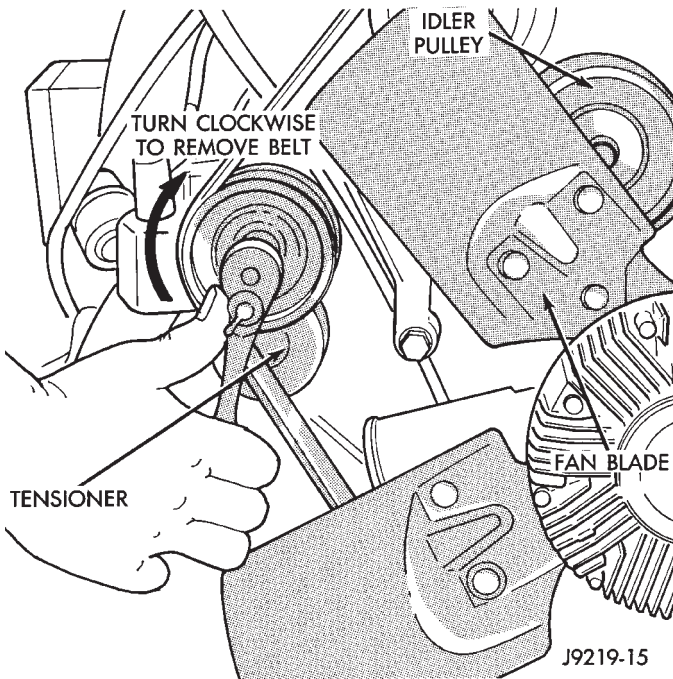

Fig. 64 Belt Tensioner—5.2/5.9L Engines
Drive belts on the 5.2L/5.9L engines are equipped with a spring loaded automatic belt tensioner (Fig. 64).
- (1) Attach a socket/wrench to pulley mounting bolt of automatic belt tensioner (Fig. 64).
- (2) Rotate tensioner assembly clockwise (as viewed from front) until tension has been relieved from belt.
- (3) Remove belt from idler pulley first.
- (4) Remove belt from vehicle.
- (1) Position drive belt over all pulleys **except** idler pulley. This pulley is located between generator and A/C compressor.
- (2) Attach a socket/wrench to pulley mounting bolt of automatic tensioner (Fig. 64).
- (3) Rotate socket/wrench clockwise. Place belt over idler pulley. Let tensioner rotate back into place. Remove wrench. Be sure belt is properly seated on all pulleys.
- (4) Check belt indexing marks. Refer to Automatic Belt Tensioner.